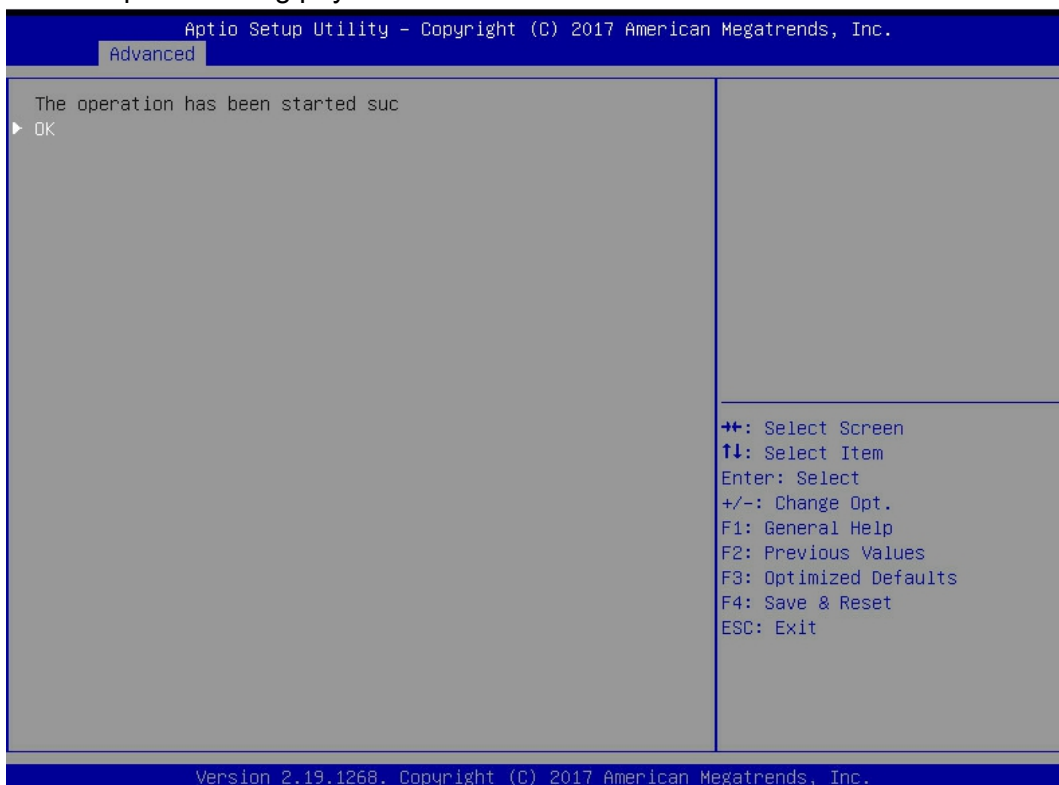

Figure 6-83
- g) Enter the interface shown in figure 6-83 to complete the operation of erasing physical disk data.
- ✧ Figure 6-83 complete erasing physical disk data